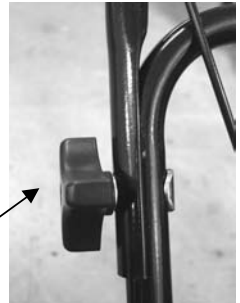

Figure 1. Handle bar pivot bolt knobs
- Loosen the two handle bar pivot bolt knobs and fold the handle bars out straight, inline with the lower handle bars. Tighten the two handle bar pivot bolt knobs to secure the handle bars in position. Refer to figure 1.